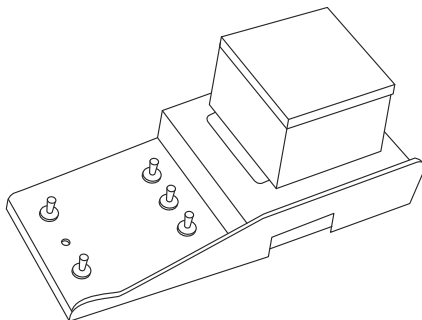

Figure 2
1. Remove the 5 nuts and washers located on the tower end of the frame using a 9/16" wrench. (See Figure 2) The extra hole is to be used to lag the machine to the floor.